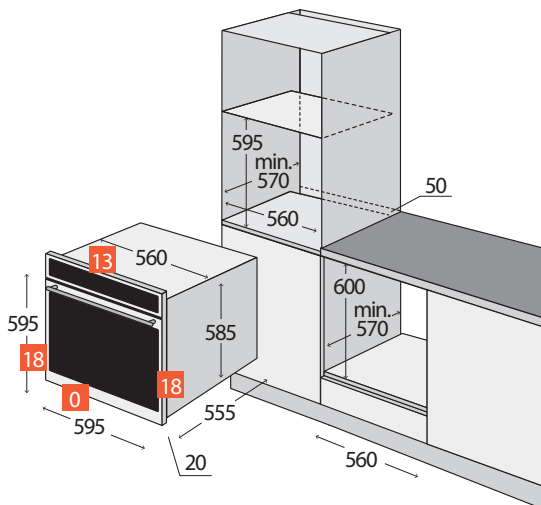

Fig. 1
- The unit should be installed in standardised kitchen furniture designed for built-in appliances or in properly adapted furniture of dimensions according to Fig. 1.
- The appliance may be located either under a kitchen cabinet or in a stand-alone cabinet (Fig. 1).
2. For the sake of efficient air circulation the unit has to be located according to the dimensions on Fig. 1 and the design of the cabinet must enable air flow into its bottom part. The gap behind the rear wall of the built-in appliance must be at least 50 mm.